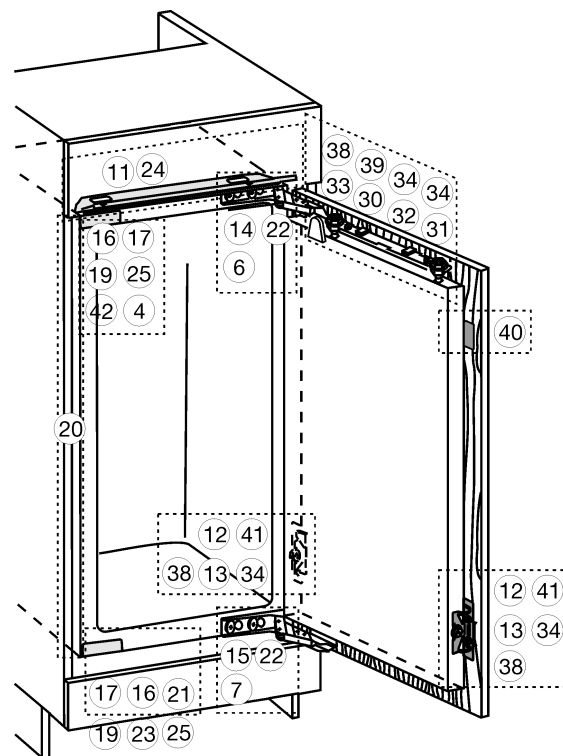
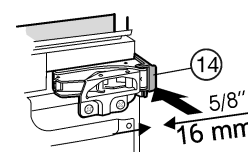
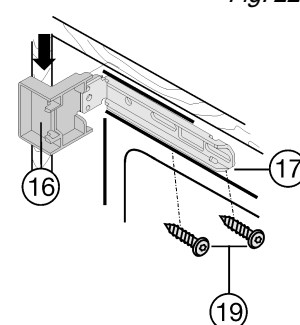
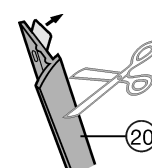

Fig. 14
Fig. 22
Fig. 23
Fig. 24
- Remove covers Fig. 14 (4,6,7).
- Clip spacer Fig. 22 (14) and spacer Fig. 14 (15) onto the hinge.
- Place the covers Fig. 23 (16) top and bottom onto the mounting brackets Fig. 23 (17).
- Fasten the mounting brackets Fig. 23 (17) on top with screws Fig. 23 (19) and on the bottom with Screws Fig. 14 (19) such that the bracket still has a slight bit of play to the left and right.
- Remove the protective film from the trim Fig. 24 (20).
- Place the trim Fig. 24 (20) on the flange of the cover Fig. 23 (16), on the handle side and flush with the front, and adhesively affix it to the side wall of the appliance.
- If necessary, shorten the trim Fig. 24 (20) at the bottom: The trim Fig. 24 (20) must end 1/8 " (3 mm) above the upper edge of the bottom mounting bracket Fig. 14 (17).
- Slide the appliance in until it contacts Fig. 23 (16) the covers Fig. 23 on the side wall of the unit.
- Note the additional space needed (for depth of door stop components): Allow the hinges and covers *Fig. 23 (16)* to protrude by the additional distance.
- Adjust the adjustable feet with the supplied open-ended wrench *Fig. 14 (21)* to align the appliance vertically.